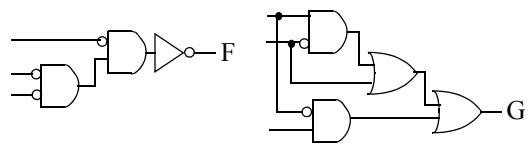

Figure 2.82
- 2.53 *Figure 2.82 shows two circuits whose inputs are unlabeled.